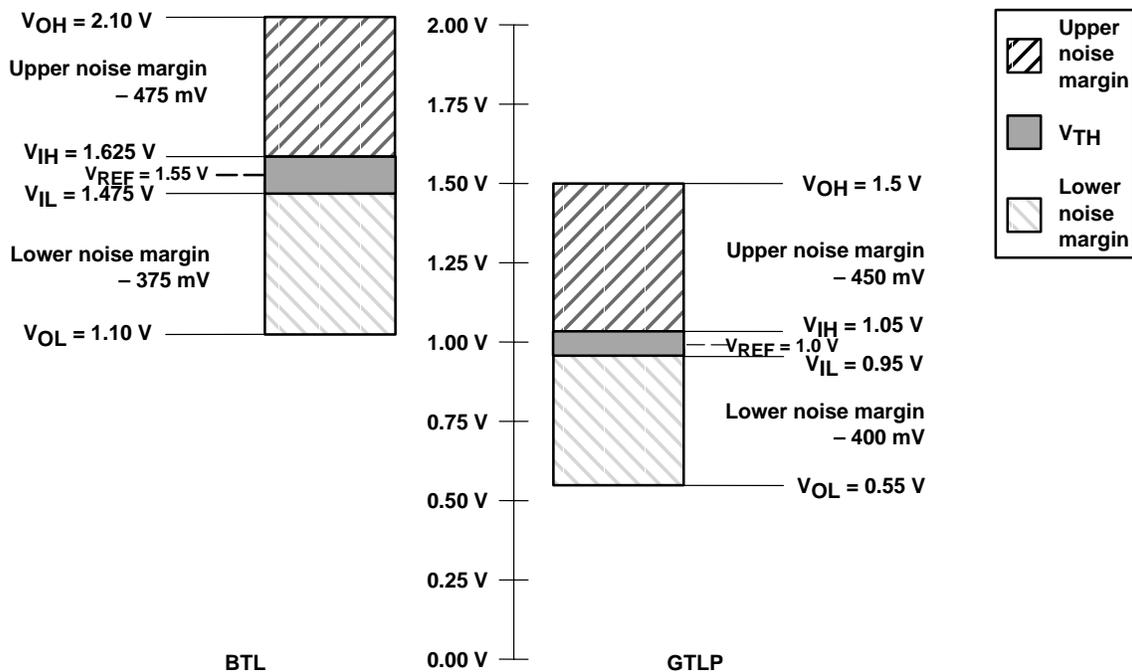

Figure 4. BTL and GTLP Signal-Level Comparison
- Signal levels – Signal levels are not compatible (see Figure 4). The level of noise margin is about the same; only the input thresholds of operation are different. As discussed in the following paragraphs, GTLP devices can operate at BTL signal levels by changing V_{REF} to 1.55 V and raising V_{TT} to 2.1 V.